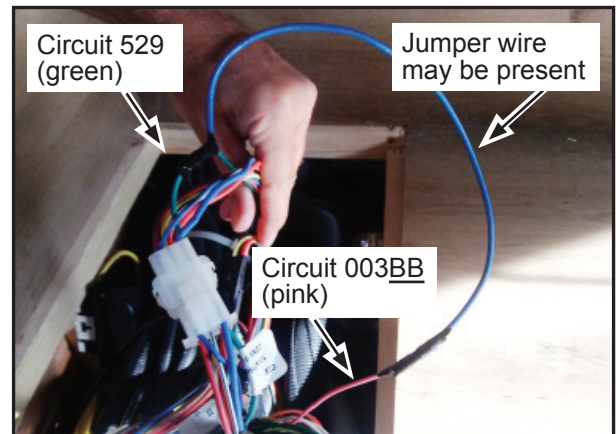
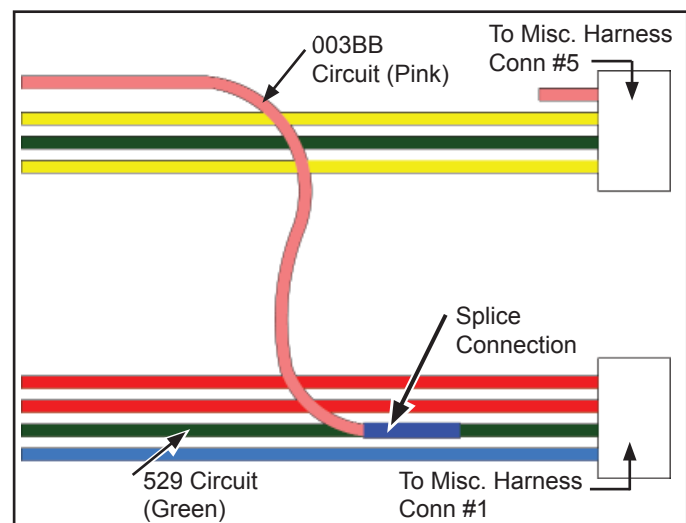

Figure 10
Figure 11
There are two possible scenarios that you may encounter that require correction, both of which are illustrated in Figures 10, 11 and 12:
- a) The first scenario would be that the 003BB circuit (pink wire) has been cut and spliced into circuit 529 (green wire). Circuit 529 will be located in an adjacent harness connection labeled as "To Misc Harness Conn #1". Refer to the Figure 10 and the schematic in Figure 11 for this possible condition.
NOTE: A jumper wire may be present, as shown in Figure 10.